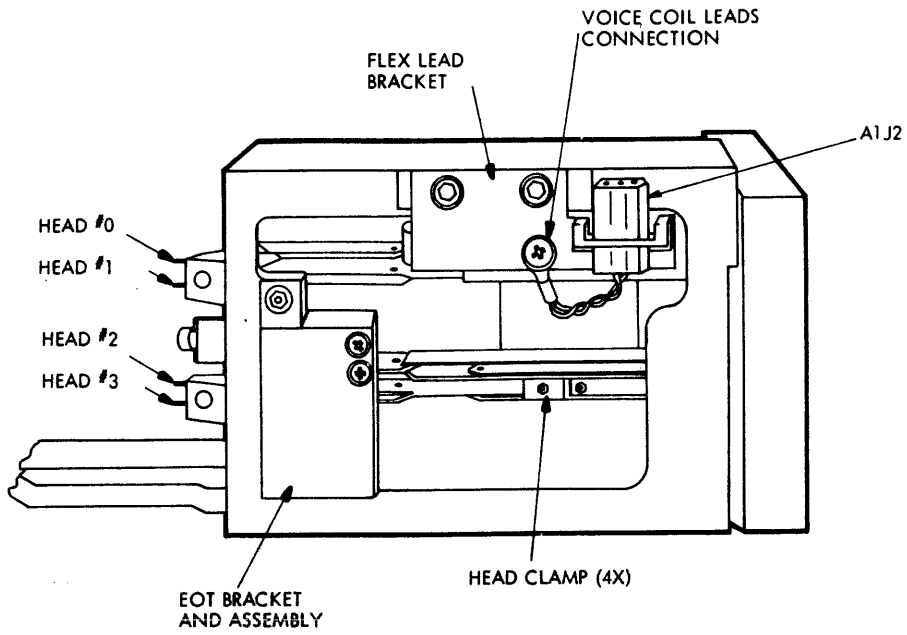

Figure 3-7. Actuator Assembly — Heads Installed
10. Loosen upper head clamps (figures 3-7 and 3-8).
2. Loosen lower head clamps (figures 3-7 and 3-8).